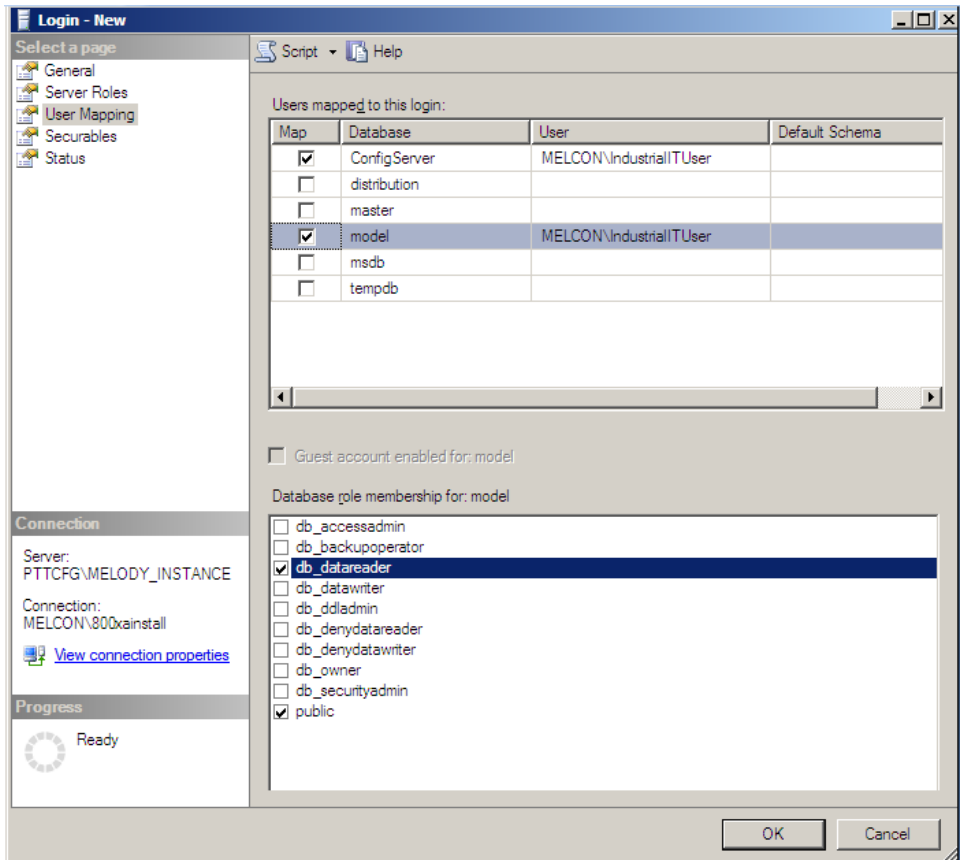

Figure 42. Selecting **db_datareader** for the ConfigServer and Model Databases
- On the User Mapping page, select the **db_datareader** check box for the ConfigServer and model databases (Figure 42).